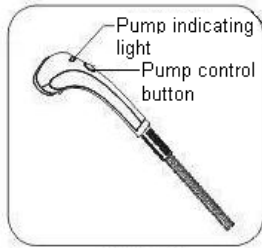

Fig. 18
- Fig 18: Steam Control button: